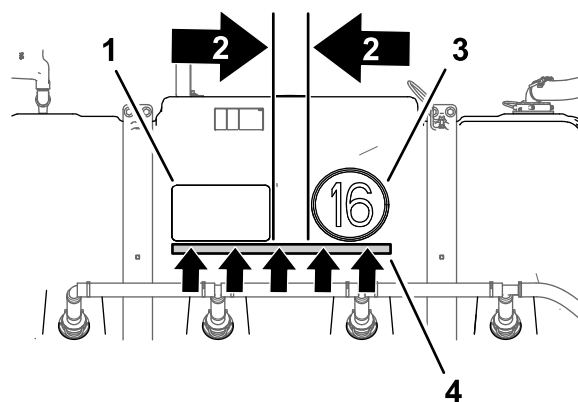

Figure 47
1. At the left side of the tank, align a piece of masking tape 56 cm (22 inches) across the bottom of the Toro Multi Pro 5800 decal and rearward as shown in Figure 47.
2. Measure 11 cm (4-1/4 inches) from the right edge of the Toro Multi Pro 5800 decal and mark the tank with a pencil Figure 47.
3. Remove the backing from a speed decal and align the decal to the mark that you made in step 1 and the top edge of the masking tape (Figure 47).
4. Apply to decal to the tank and remove the masking tape (Figure 47).